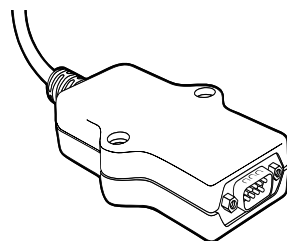

Figure 3
1. Plug in the Q-Logic™ Handheld Programmer (Previous Page) to the Q-Logic™ ED (Enhanced Display) or to the standalone Joystick if SCIM (Specialty Control Input Module - Figure 3) is in use.
If using Q-Logic™ Specialty Control Input Module (SCIM Figure 3), you will need any type of mechanical switch to plug into the power port of the standalone joystick to power ON/OFF the chair and ensure the SCIM as master control. Q-Logic™ programmer required.